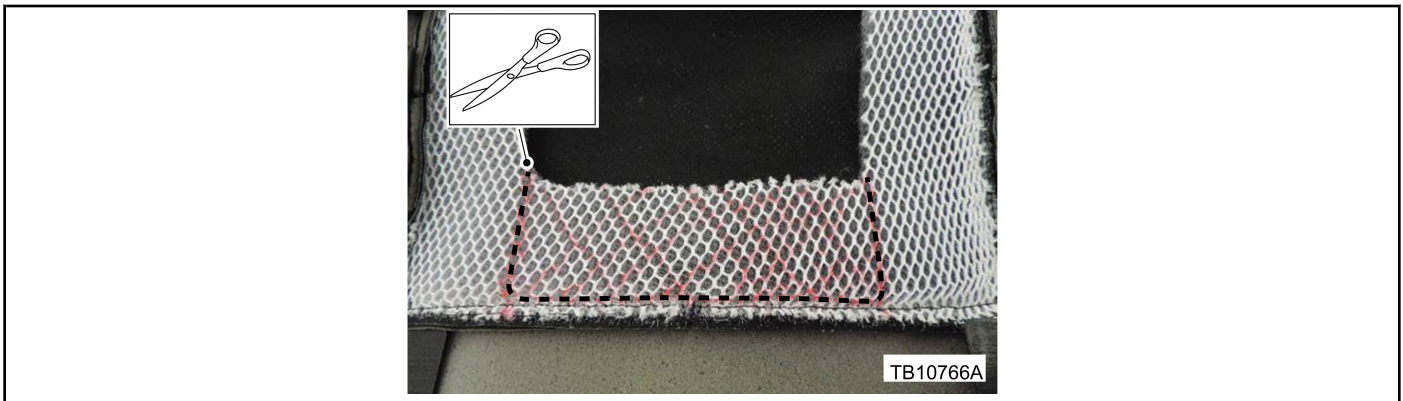

Figure 1 - Article 15-0154
3. With the seat backrest cover positioned upward, use scissors or equivalent cutting device to remove the indicated portion of the seat backrest cover foam spacer pad (using the existing spacer pad opening as a guide). Do not cut the stitched seam at the lower edge of the seat backrest cover. (Figure 1)